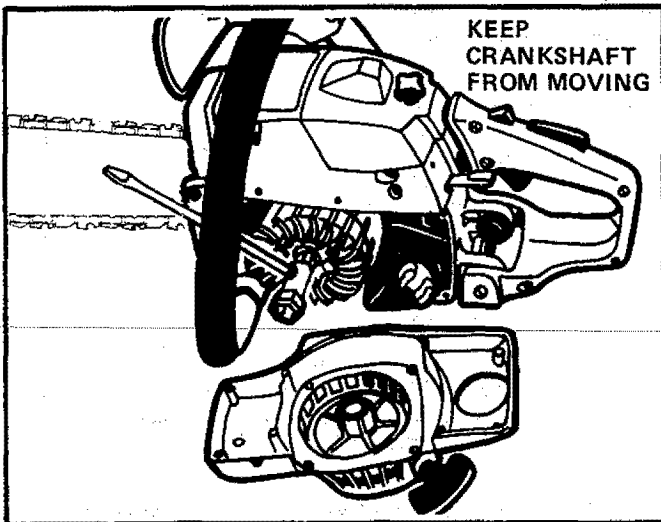

Figure 54
4. Use a 9/16" socket wrench on the flywheel nut to keep the crankshaft from moving. Figure 54.
- NOTE:** Place the socket handle forward as shown in Figure 54.